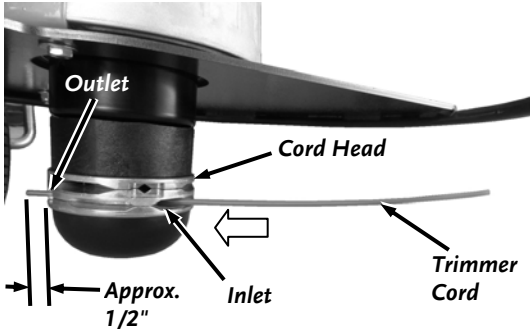

Figure 9
1. Insert the end of a Trimmer Cord into the inlet hole (larger slotted cutout) push it in until the end protrudes out the other side approximately 1/2" (Figure 9).